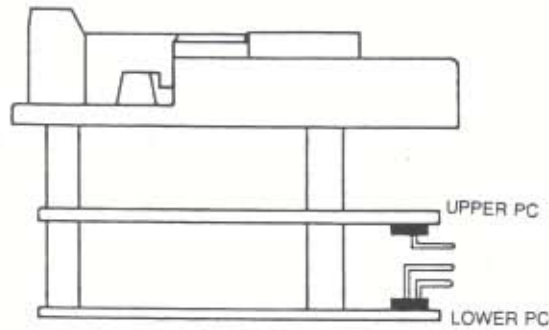

Figure 2-2 DVX Unit Disassembly
To access the field selectable jumpers on a HP unit, you must first; remove the four (4) screws from the front panel of the module, and then; lift out the front panel display, along with the two attached printed circuit boards. (see figure 2-2) The HP unit has 90-degree angle pin connectors for jumper settings.
To access the field selectable jumpers on a DIN unit, remove the six (6) screws from the right-side panel. (see figure 2-2) The DIN unit has standard straight pin connectors for jumper settings.